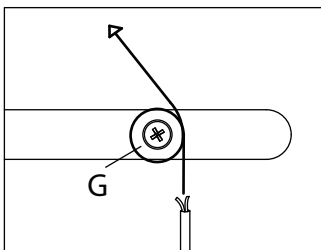

Fig. 2
4. Use the screwdriver (D) to loosen the set screws (E). Loop the outer cords (F) around the outer spacers (G) (Fig. 2) and feed them through the bushings (H) in the canopy (J). Adjust the cords to the desired length. Tighten the set screws to set.